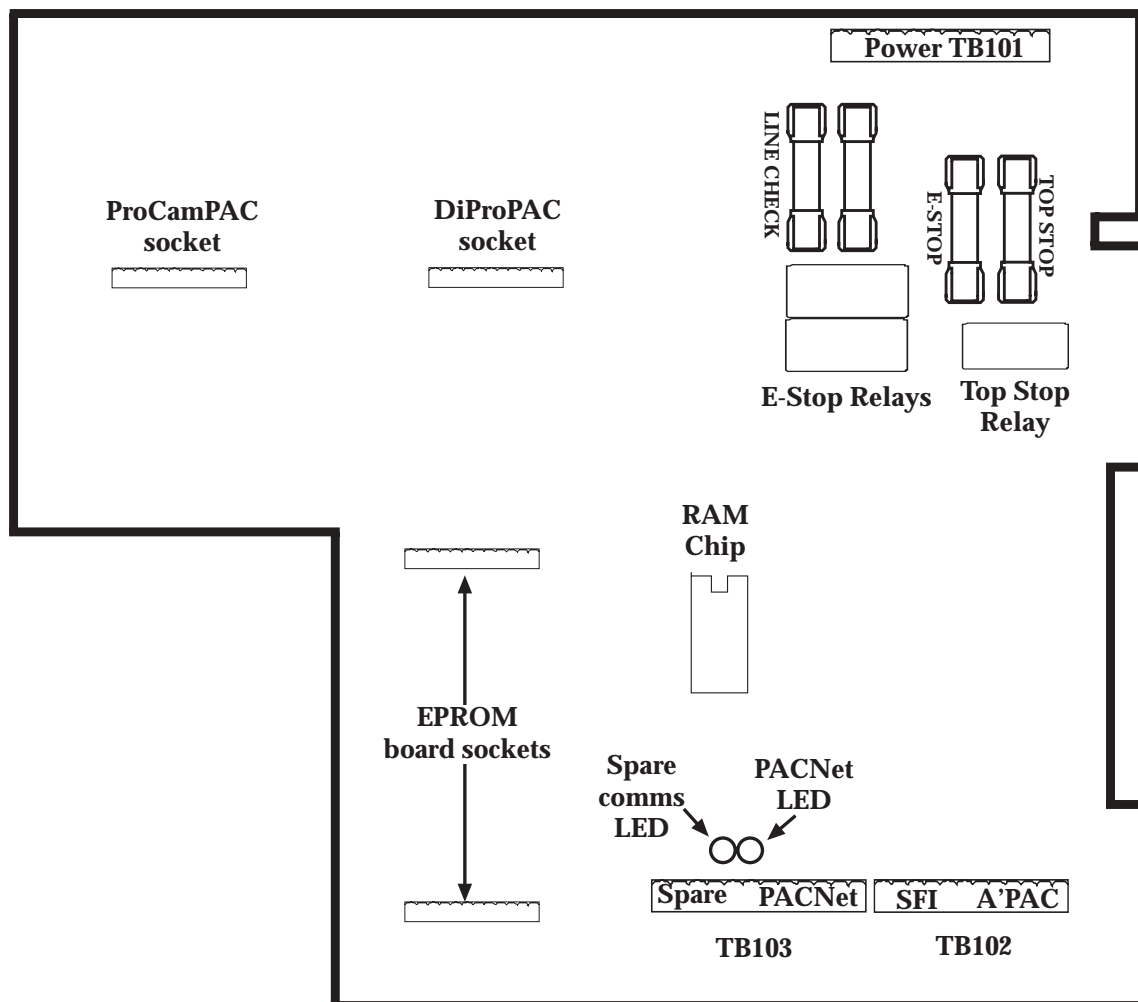

Figure 2-13. SmartPAC Hydraulic Processor Board Location of components
2. Mount the output enclosure using mounting holes on the flanges (Fig. 2-13, Pg. 39).
The SmartPAC Hydraulic firmware board location is not interchangeable. Notice too, that the style of the firmware board has changed. It is called the "4-meg" board and contains only 1 firmware chip, with 1 extra available slot (reserved by WC for future enhancement). It must be installed on the main processor board as illustrated in Fig. 2-13, Pg. 39 of this chapter.
3. Look inside SmartPAC Hydraulic and locate the firmware board, located toward the bottom left of the main processor board (Fig. 2-13, Pg. 39). Take note of its orientation.